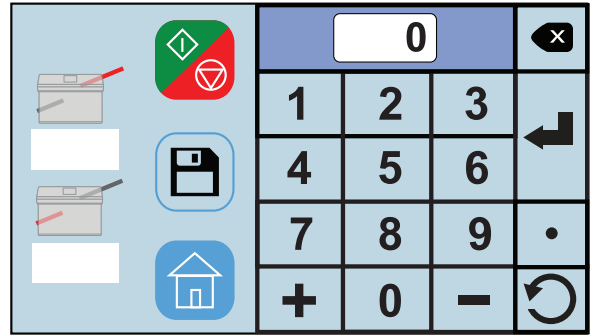

Fig. 21
5. To edit a previously saved job, select the job from the list and press the edit icon  (Fig. 18). From the fold setup screen use the same process as setting a custom fold (page 9) to edit the job settings (Fig. 21). See page 10 for measuring guidelines.